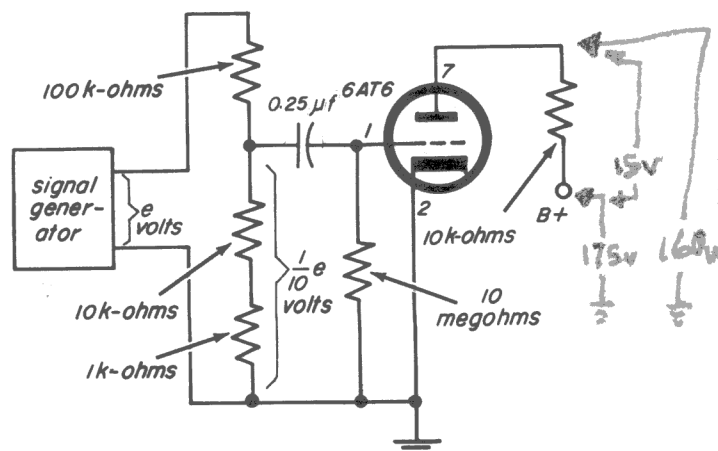

Fig. 23-11
Step 5. Connect the output of the signal generator across the three series resistors on the resistor breadboard, with the ground lead going to the free end of the 1 k-ohm resistor. The other lead goes to the free end of the 100 k-ohm resistor, as shown in Fig. 23-11.
Step 6. Connect a 12-inch piece of wire from the junction of the 10k-ohm and the 100k-ohm resistors to one terminal of the 0.25- μ f capacitor on the capacitor board, and another piece of wire from the other terminal of this capacitor to pin 1 of the 6AT6 tube socket, as in Fig. 23-11.
Information. The circuit for this experiment is shown in schematic form in Fig. 23-11. Two functions are performed by the three series resistors: They form a 10:1 voltage divider, so that with 1 volt input, 0.1 volt is applied as signal to the grid of the 6AT6 tube. Also their total resistance is the same as that of the meter on the 15 VAC range, so they duplicate the meter loading and keep the voltage input constant.
Step 9. Check your work with the schematic in Fig. 23-11. When you are sure the work is correct, plug in the power cord, and wait about 30 seconds for the tubes to warm up.